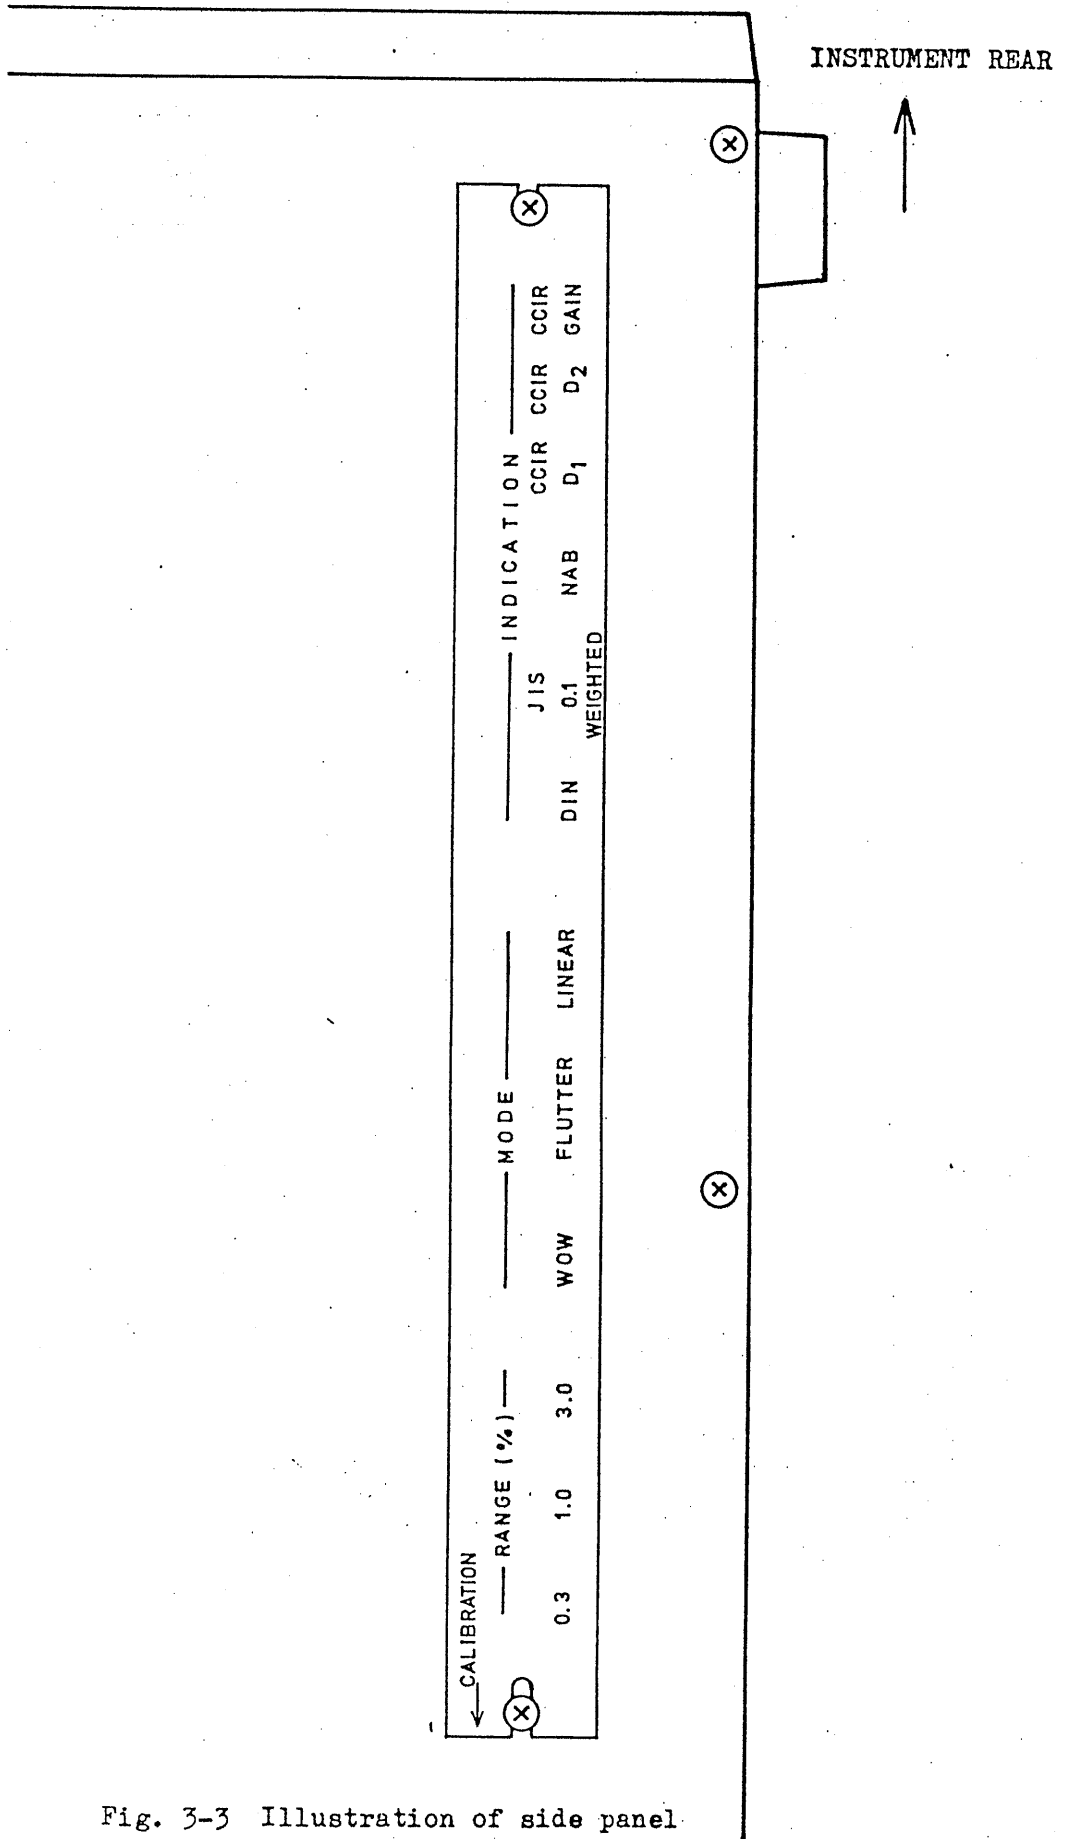

Fig. 3-3 Illustration of side panel.
3.3 Explanation of Side Panel (Refer to Fig. 3-3.)